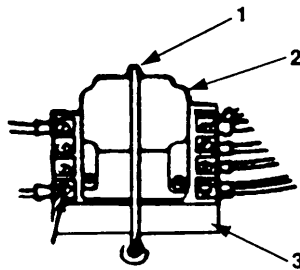

Figure 4-47. Safety Relay (K1) Replacement.
- a. Remove retainer clip (figure 4-47, 1) from relay (2).
- b. Remove relay (2) from socket (3) .
- a. Install relay (2) into socket (3).
- b. Secure relay (2) by lifting retainer clip (1) over relay (2).